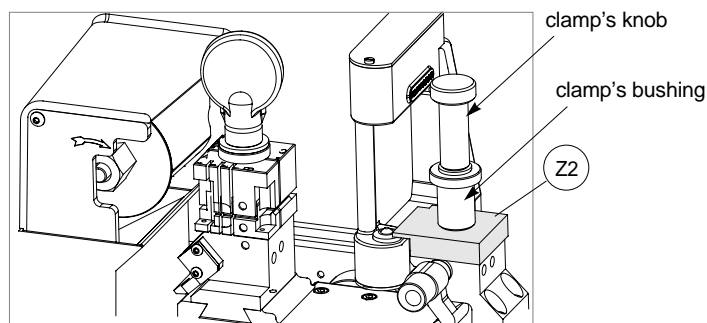

Fig. 64
4) fit the (Z2) template and the clamp's bushing securing it with the clamp's knob (fig. 64).